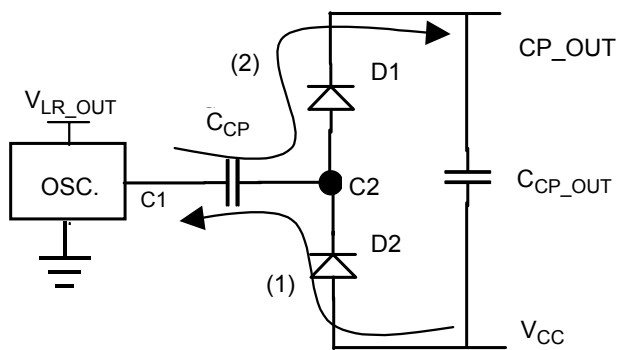

Figure 6. Charge Pump Basic Circuit
The charge pump generates the high-side driver supply voltage (CP_OUT), buffered at C_{CP_OUT} . Figure 6 shows the charge pump basic circuit without load.
When the oscillator is in low state [(1) in Figure 6], C_{CP} is charged through D2 until its voltage reaches $V_{CC} - V_{D2}$. When the oscillator is in high state (2), C_{CP} is discharged through D1 in C_{CP_OUT} , and final voltage of the charge pump, V_{CP_OUT} , is $V_{CC} + V_{LR_OUT} - 2V_D$. The frequency of the 33883 oscillator is about 330 kHz.